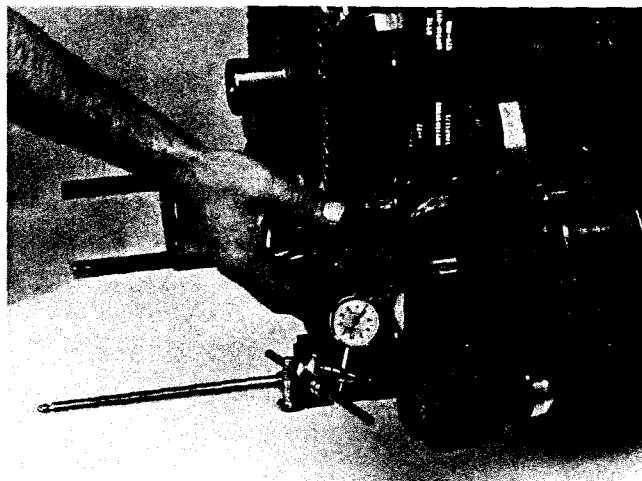

Fig. 14-30, (N114264). Checking lubricating oil pump gear backlash
3. Use same procedure to check pump gear backlash (Fig. 14-30), as used for checking accessory drive gear backlash.